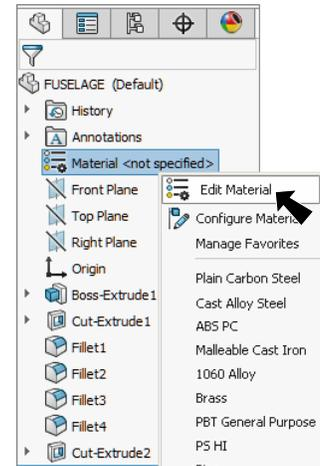

Fig. 33
Step 1. Right click Material  in the Feature Manager and click Edit Material, Fig. 33.